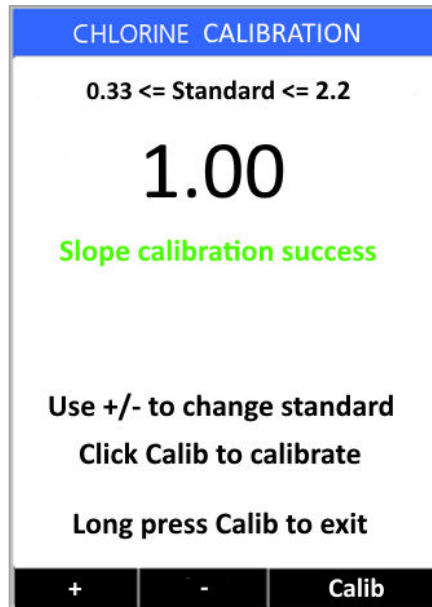

Figure 9. Slope calibration succeed
7. Click the **CALIB** button (labeled with OK) to start slope calibration, calibration results will be displayed as Figure 9.